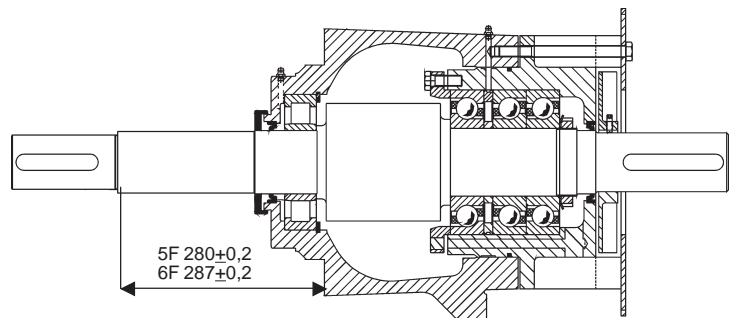

Fig. 16
9. Measure the shaft overhang, as in Fig. 16. Use shims between the bearing housing and the bearing bracket if necessary.